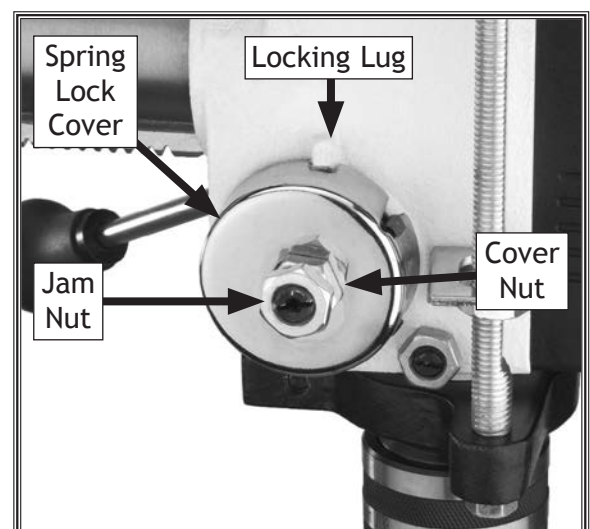

Figure 42. Spindle return spring components.
2. Wipe off any oil on the spring-lock cover so it will not slip when you hold the cover from spinning (see **Figure 42**).